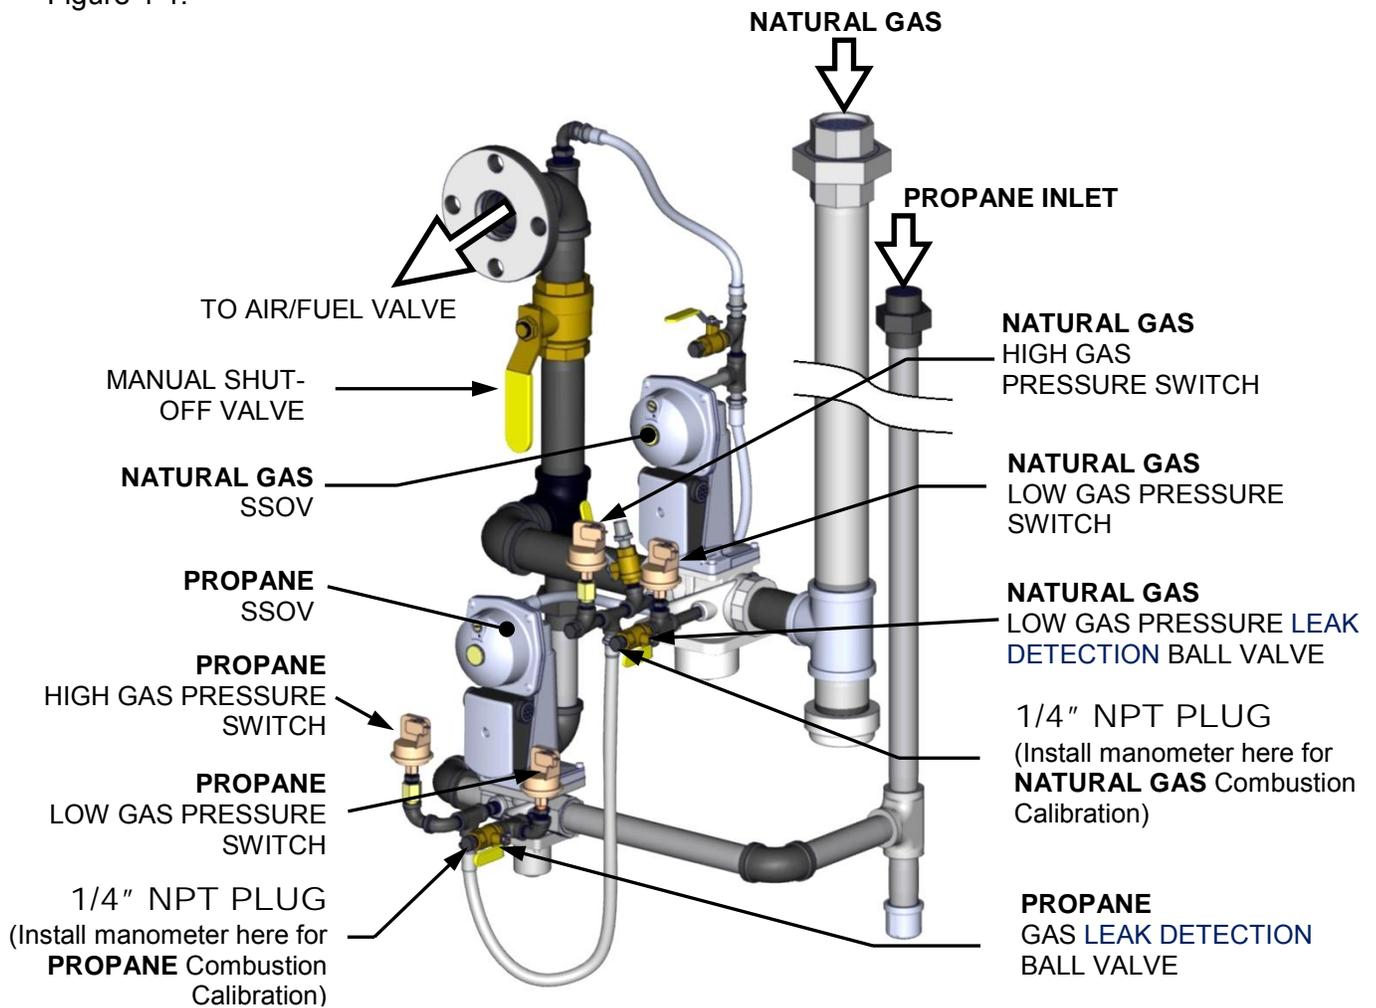

Figure 4-1: BMK 1500DF/2000DF: 1/4 Inch Gas Plug Locations for Combustion Calibration
The gas supply manometer is installed at the upstream and/or downstream location shown in Figure 4-1.
3. To monitor the gas pressure on the downstream side of the SSOV during Combustion Calibration (section 4.3), remove the 1/4" NPT plug from the leak detection ball valve on the downstream side of the SSOV as shown in Figure 4-1.